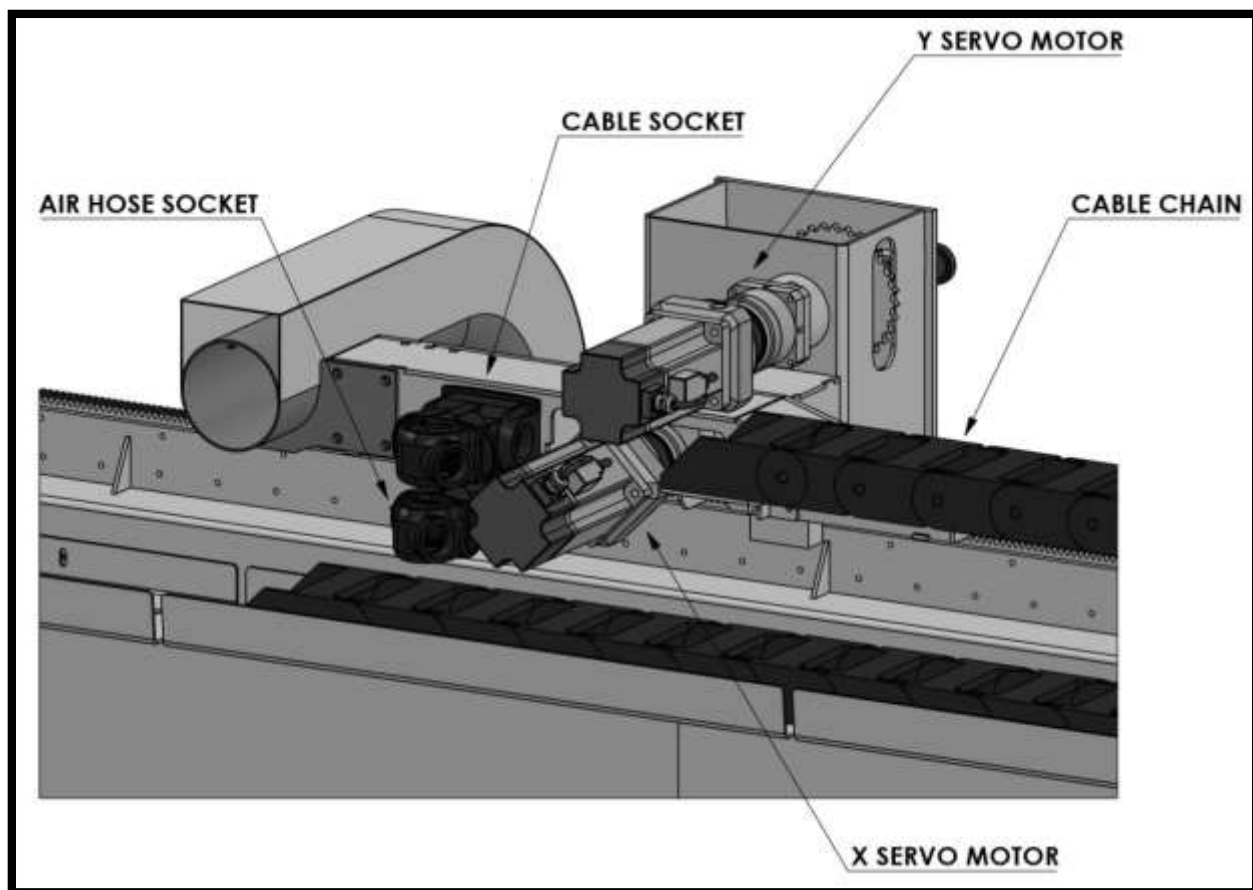

Figure 2.8 - Locations of X and Y Axis Motors
- 3- Y axis motor is attached to the gearbox on the cutting block. (Fig. 2.8) NOTE: The screws that secure the motor flange to the gear unit must be securely fastened. The coupling between the motor and the gear unit must be tightened tightly.